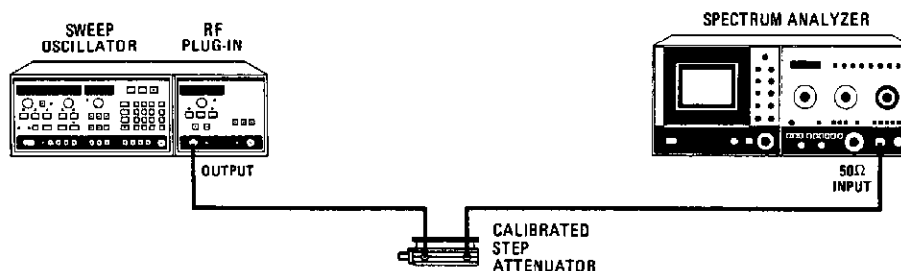

Figure 4-19. Attenuator Accuracy Test Setup
1. Connect equipment as shown in Figure 4-19. Press Model 8350A/B [INSTR PRESET], [CW] [4] [GHz]. Set the Model 83592C POWER LEVEL to -1 dBm.